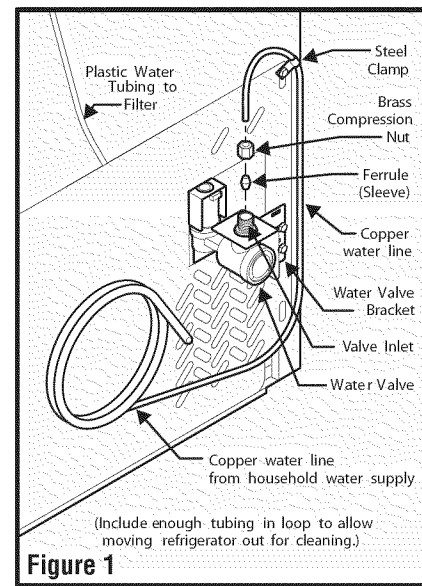

Figure 1
- If you use copper tubing - Slide brass compression nut, then ferrule (sleeve) onto water supply line. Push water supply line into water valve inlet as far as it will go (1/4 inch). Slide ferrule (sleeve) into valve inlet and finger tighten compression nut onto valve. Tighten another half turn with a wrench; DO NOT over tighten. See Figure 1.